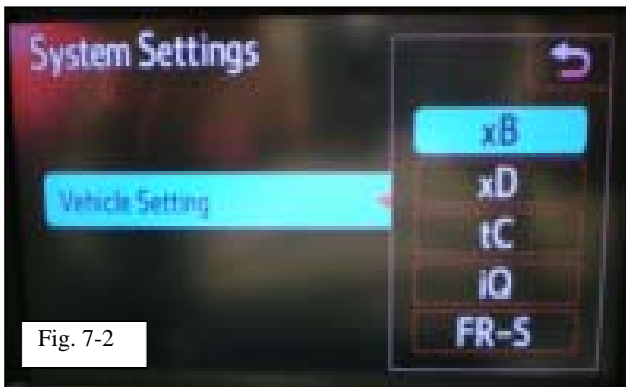

Fig. 7-2
- (c) Under vehicle setting, select "xB" and press save. (Fig. 7-2)